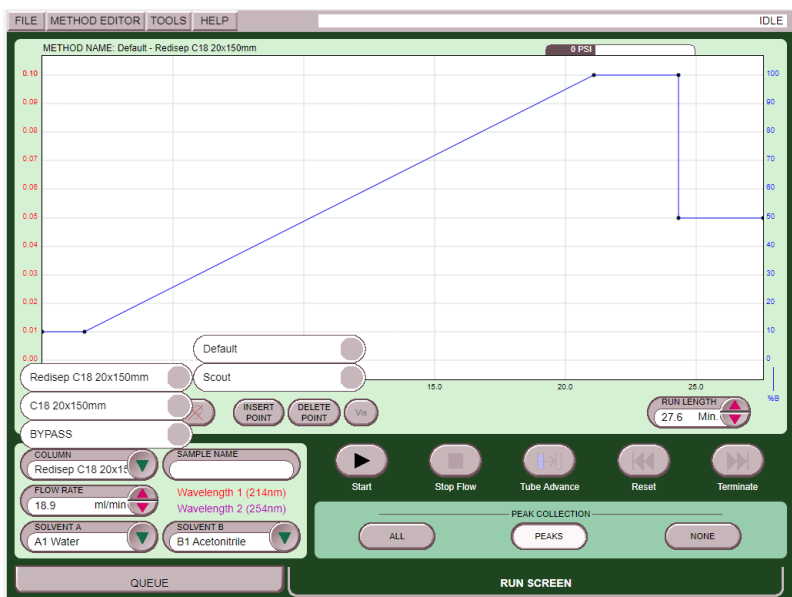

Figure 2-5 Loading the Scouting method
2. Select the scouting method you just defined to the column (Figure 2-5).